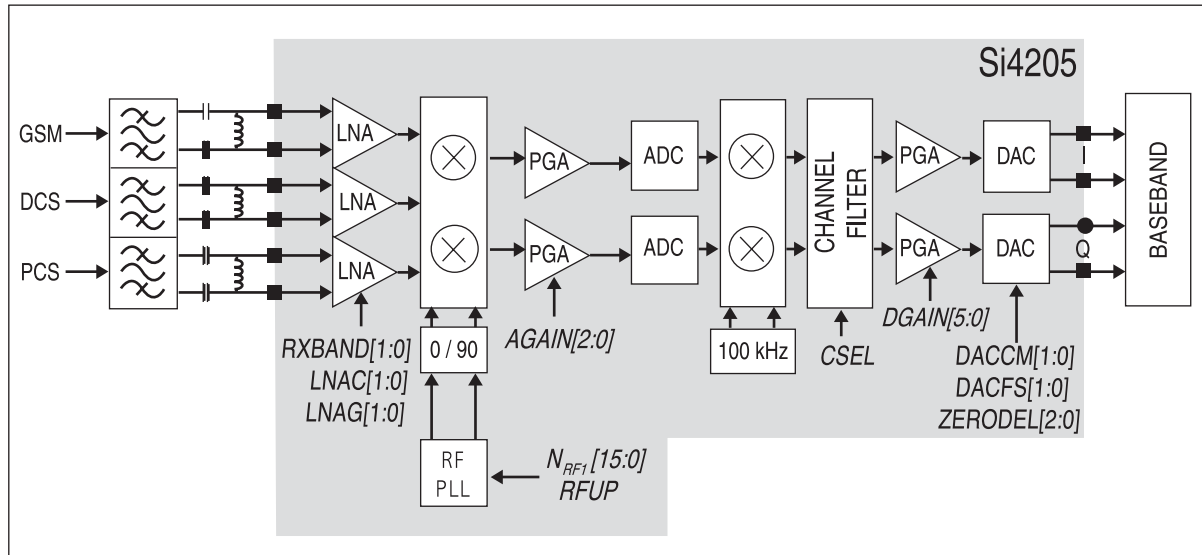

Figure 3-2 SI4205 RECEIVER PART
The LNA inputs are matched to the 150Ω balanced output SAW filters through external LC matching networks. The LNA gain is controlled with the LNAG[1:0] and LNAC[1:0] bits in register 05h (Figure 3-2).
B. Intermediate frequency (IF) and Demodulation
A quadrature image-reject mixer downconverts the RF signal to a 100KHz intermediate frequency (IF) with the RFLO from the frequency synthesizer. The RFLO frequency is between 1737.8 to 1989.9 MHz, and is internally divided by 2 for GSM 850 and E-GSM 900 modes. The mixer output is amplified with an analog programmable gain amplifier (PGA), which is controlled with the AGAIN[2:0] bits in register 05h (Figure 3-2). The quadrature IF signal is digitized with high resolution A/D converters (ADCs).